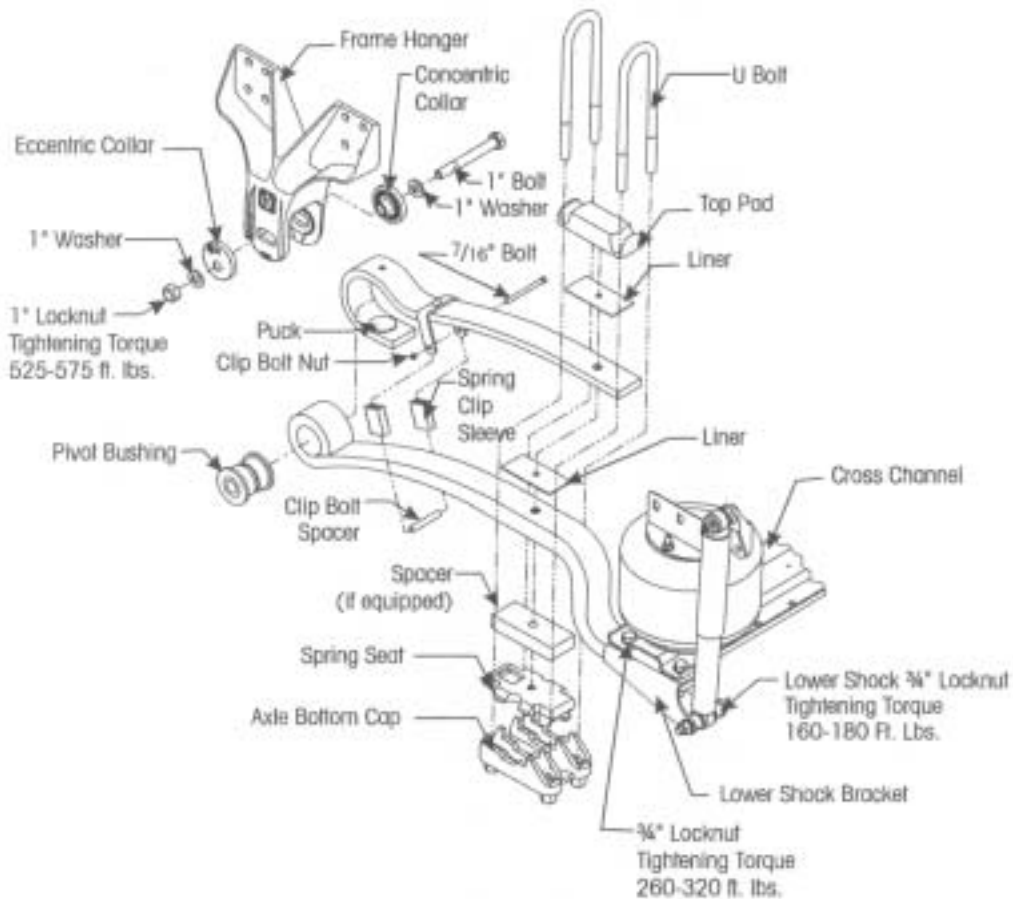

Figure 7.4
2. Assemble the top pad, U bolts, axle bottom cap, washers and locknuts. Do NOT tighten U bolt locknuts at this time. **Figure 7.4**.
11. Install the 7/16" bolt and nut into the spring clip and tighten to 30-34 foot pounds torque. See **Figure 7.4**.